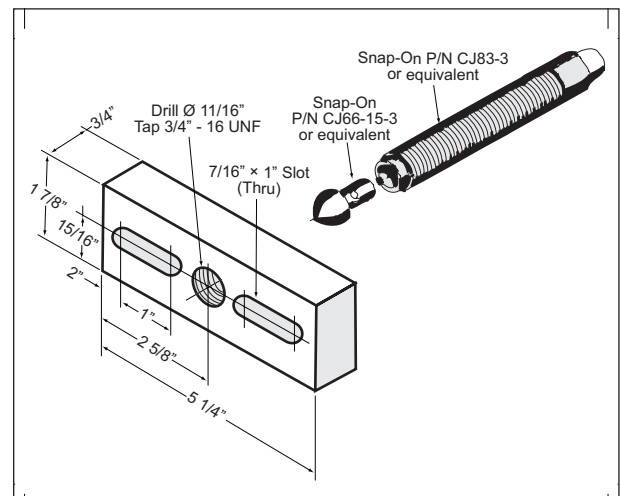

Figure 6-1 – Bar Puller
5. Rotate the blower. Remove bolts and washers from rotor shafts on the gear end. Remove the timing gear bolts completely from the driven rotor. Remove the timing gear from the rotor shaft by using a gear puller. **See Figure 6-1.** Rotate the gear as it is being removed to prevent binding. Inspect the gear teeth for wear and pitting. Inspect the rotor shaft keyway for wear and damage.
- Using a large arbor press, orient the blower drive shaft down, supported by the ports and use a straight bar (such as a puller bar shown in **Figure 6-1**) to put even pressure on the gear end of the rotors. Once the rotors are pressed to flush with the bearings, insert metric bolts into the rotor or use a spacer slightly smaller than the shaft diameter to press the rotors through the bearings. Save shims and measure for proper clearance for rebuilding the blower. Remove the seal assembly from the end plate.
5. Use 4 jacking screws on drive end endplate. Apply even pressure to jack screws to push the endplate from housing and rotor shafts. Remove shims from endplate. Remove bearings and seal assembly from endplate. Rotate unit. Remove bolts and washers from rotor shafts on the gear end. Remove the timing gear bolts completely from the driven rotor. Remove the timing gear from the rotor shaft by using a gear puller. **See Figure 6-1.** Rotate the gear as it is being removed to prevent binding. Inspect gear teeth for wear and pitting. Remove rotor key from keyways. Inspect rotor shaft keyway for wear and damage.
bearings and remove bearing shield. Save shims and measure for proper clearance for rebuilding the unit. Remove seal assembly from the endplate. OR Using a large arbor press, orient the blower drive shaft down, supported by the ports and use a straight bar (such as a puller bar shown in **Figure 6-1**) to put even pressure on the gear end of the rotors. Once the rotors are pressed to flush with the bearings, insert metric bolts in to the rotor or use a spacer slightly smaller than the shaft diameter to press the rotors through the bearings. Save shims and measure for proper clearance for rebuilding the unit. Remove seal assembly from endplate.